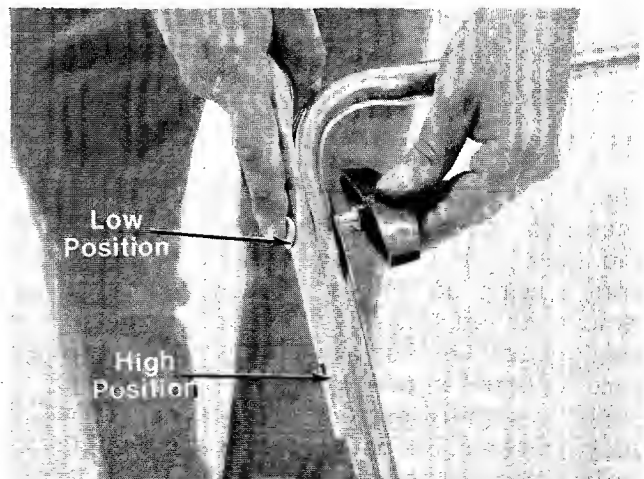

FIGURE 20.
4. There are two height positions for the handle. Place upper handle in position over lower handle, selecting hole for either high or low position. Refer to figure 20.
The upper handle can be adjusted to a high or low position. The operator of the lawn mower can easily adjust the handle position by unscrewing the two knobs, removing the two bolts and reassembling in the other position. No tools are necessary to make this adjustment. See figure 20.